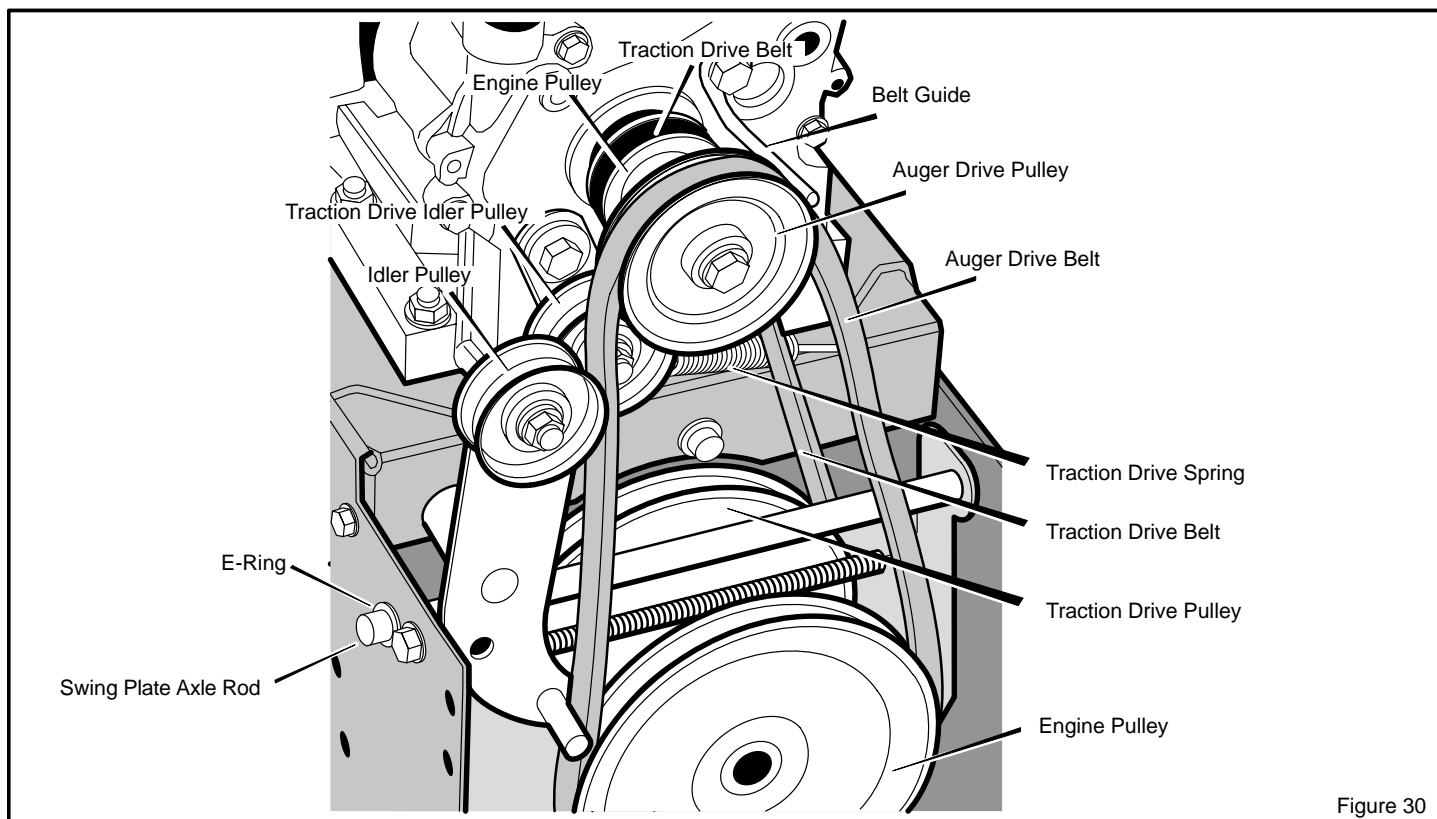

Figure 30
3. Loosen nut on auger idler pulley and move auger idler pulley towards belt about 1/8 inch (3 mm) (see Figure 30).
5. Loosen the **belt guide**. Pull the **belt guide** away from the **auger drive pulley** (see Figure 30).
3. Remove the **e-ring** from one end of the **swing plate axle rod**. Remove the **swing plate axle rod** to allow the swing plate to pivot forward (see Figure 30).